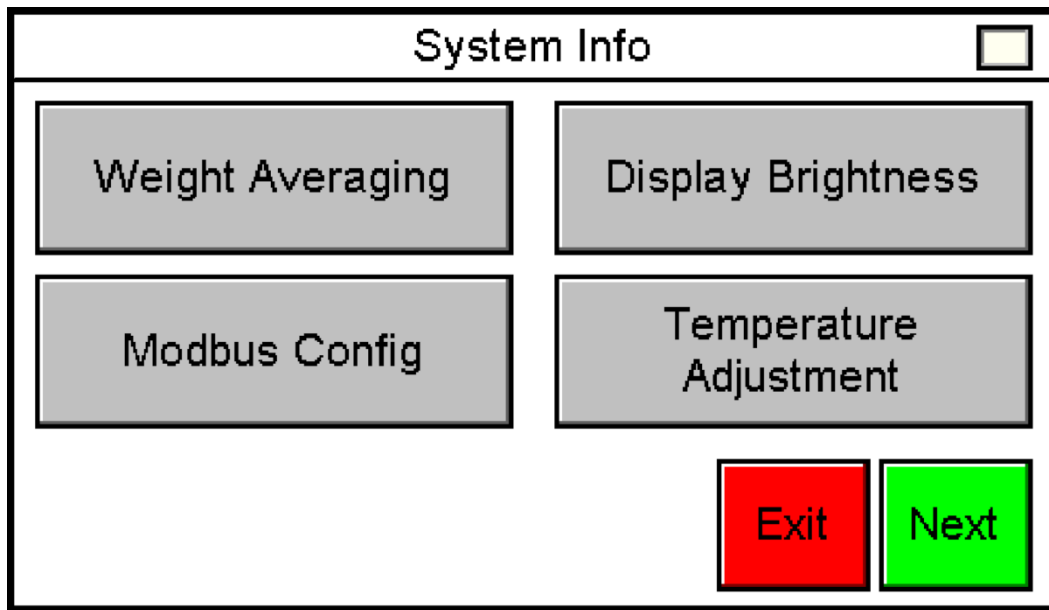

Figure 90: System Info 1
The user can access weight averaging by pressing the “Weight Averaging” button on the system info menu screen (see figure 90). The user can choose between standard and high weight averaging. “Standard” contains no analog input internal filtering for maximum speed. “High” contains analog input internal filtering for maximum accuracy and precision. “Standard” averaging is recommended for applications where update rate is critical. “High” averaging is recommended for applications seeking the greatest possible accuracy that does not require a fast update rate. When the weight averaging speed is changed to “High”, the net weight will hold the previous value for a length of thirty (30) seconds before the new averaging speed will be active.
The user can access display brightness by pressing the “Display Brightness” button on the system info menu screen (see figure 90). The user can adjust the display brightness from a range of 20% to 100%.
The user can access Modbus by pressing the “Modbus Config” button on the system info menu screen (see figure 90). The user can configure the indicator’s network addresses by pressing “Network Configuration”. The user can also view the Modbus address map by pressing “Address Map”. The user is able to configure the indicator’s IP address, net mask, and gateway through the network configuration. The user is able to view all reserved outputs for Modbus through the address map.
The user can access temperature adjustment by pressing the “Temperature Adjustment” button on the system info menu screen (see figure 90). The user can add or subtract bits from the analog input to offset the difference caused by temperature fluctuations.